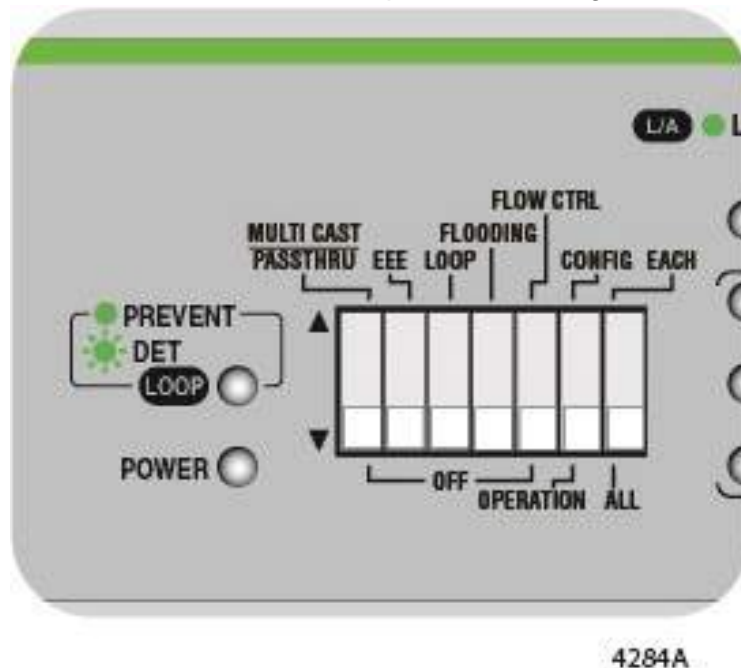

Figure 50. DIP Switch Settings for Disabling Flooding
1. Set DIP switch # 4 to the DOWN position. See Figure 50.